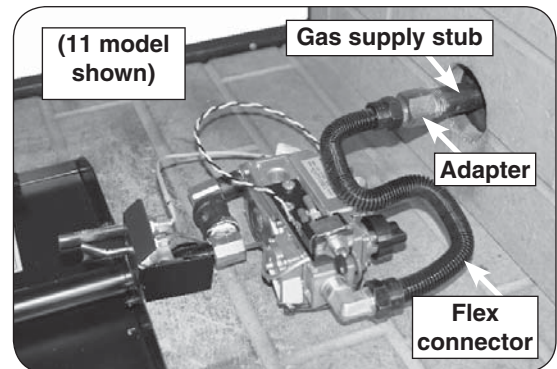

Fig. 16-1 Connect gas supply
2. Locate the gas-supply stub inside the fireplace and remove the cap, if attached (reference Fig. 16-1).
5. **Be sure gas to the fireplace is off.** Remove the adapter connected to the flex connector. Attach the adapter to the gas-supply stub using a pipe compound resistant to all gasses. Tighten securely. Then attach the open end of the flex connector to the adapter. Tighten securely (see Fig. 16-1). Ensure the pan rests level on the fireplace floor after connection. Adjust the pan if necessary.
It is recommended the receiver/switch box be placed outside of the firebox and a minimum of 6" from the burner/flame. See Fig. 16-1, A.
Alternatively, the box can be placed inside of the firebox, but must be oriented as shown in Fig. 16-1, B. Set the box on its side and place the bottom of the box toward the right firebox wall (box must be a minimum of 6" from the burner/flame). DO NOT place at the rear of the firebox.